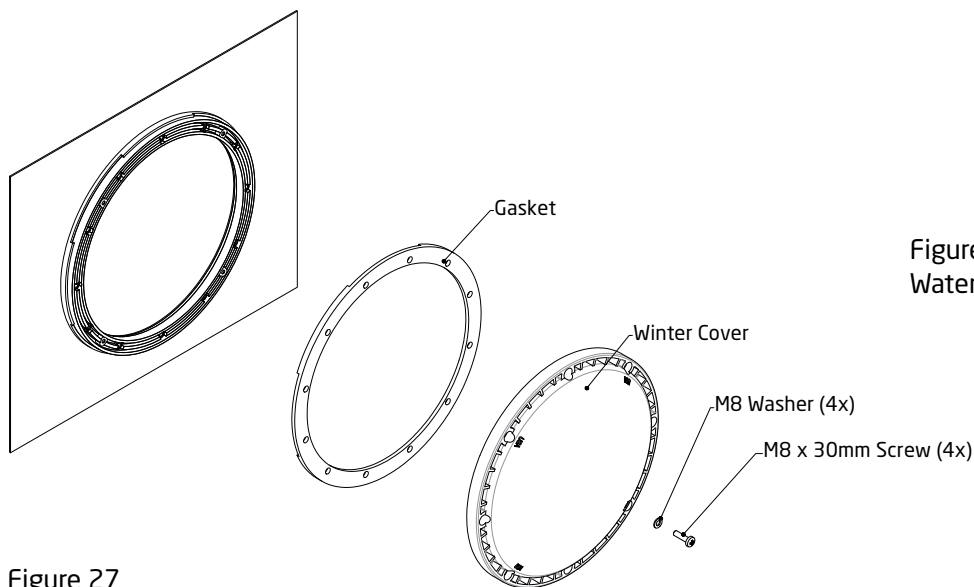

Figure 27
In areas subject to freezing water temperatures, you should protect your equipment. We recommend you purchase a winter cover kit part #2326000010K. This kit includes one (1) winter plate, one (1) gasket, four (4) M8 washers, and four (4) M8 x 30mm screws. (See Figure 27)